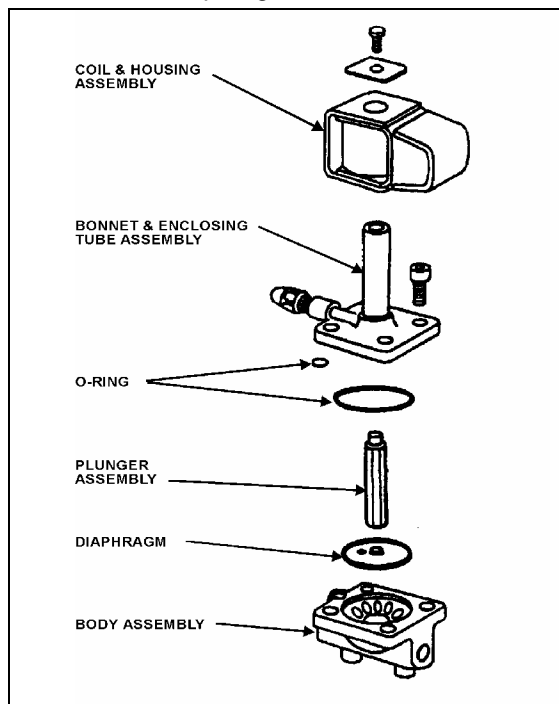

FIGURE 25: REFRIGERANT SOLENOID VALVE 22044
3. Remove the four socket head screws which hold the body and bonnet together (Fig. 25).